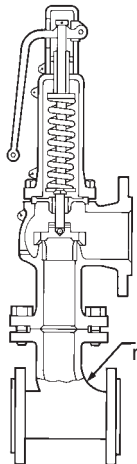
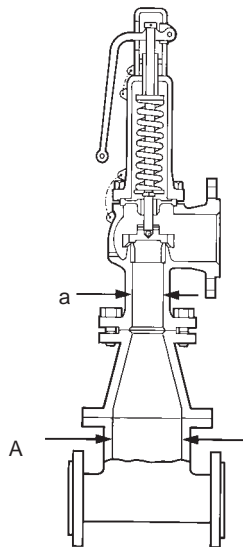

Fig 5
Fig 6
- 4.4 The inlet pipe connection should not be smaller than the valve. (See Fig. 5 and 6)
Inlet branches should be as Fig. 5 or Fig. 6.